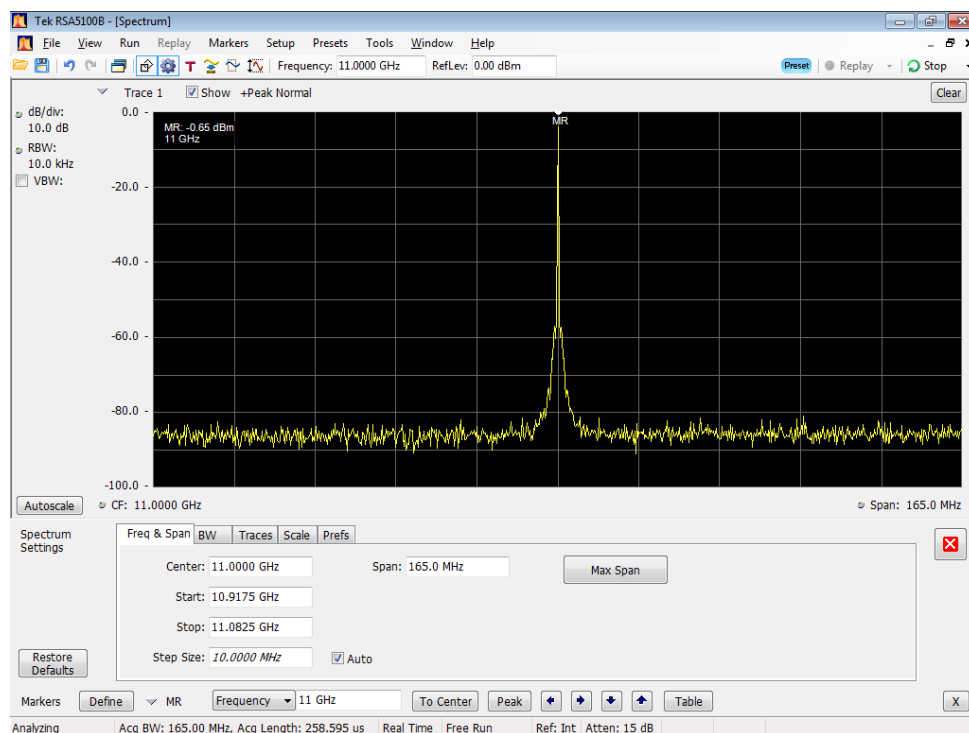

Figure 10: 11 GHz output waveform
22. Check that the Channel 1 waveform is properly displayed on the signal analyzer screen. (See Figure 10.)